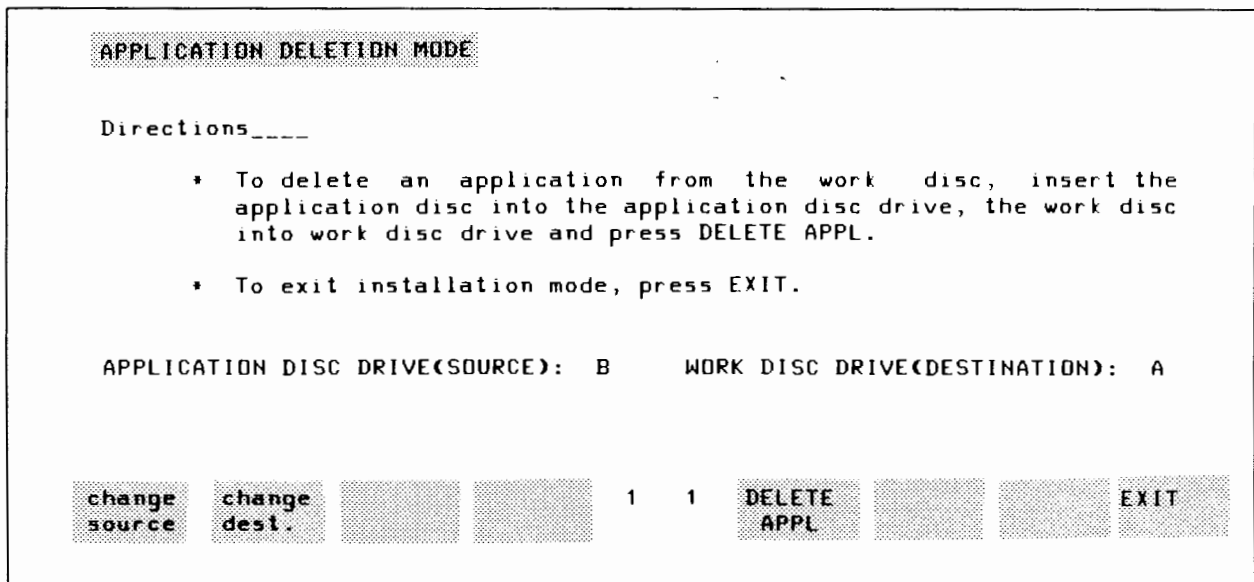

Figure 3-1. Application Deletion Display.
1. Place the Welcome program into application deletion mode by pressing the [CTRL], [SHIFT] and [DEL] keys simultaneously. The screen display appears as shown in Figure 3-1.